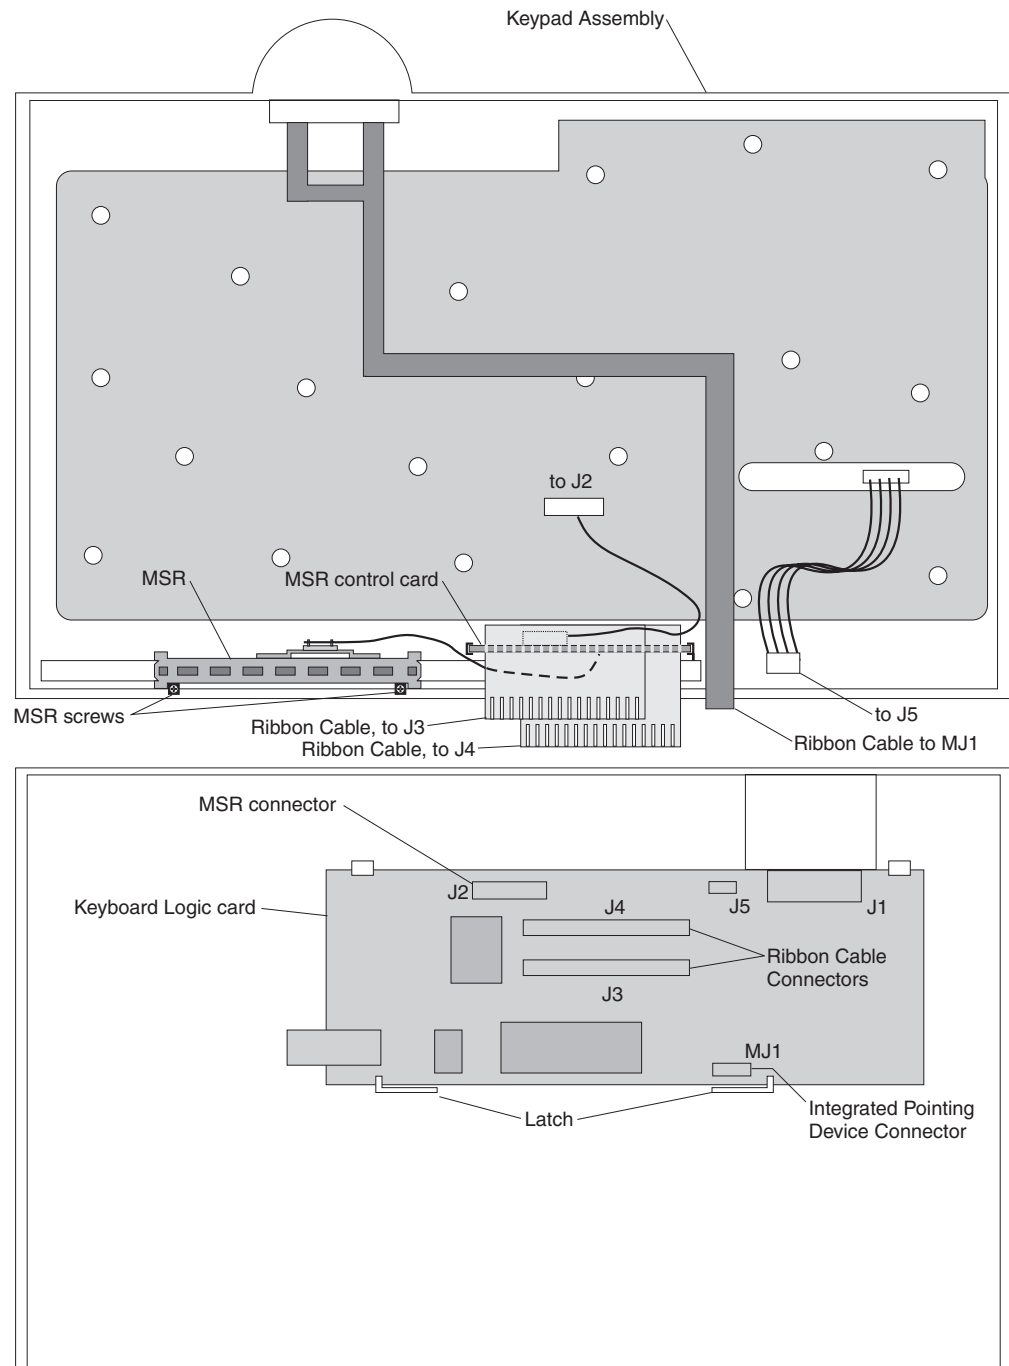

Figure 150. CANPOS keypad assembly with MSR
2. Remove the two screws holding the MSR to the keypad assembly as shown in Figure 150. Lift the MSR up and off the the two plastic guides on the keypad assembly.
3. Align the MSR's two screw-holes tabs with the screw holes on the keypad assembly and slide the MSR into the two plastic guides. Install and tighten the two screws, as shown in Figure 150 on page 173.